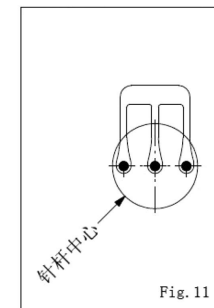

Fig. 11
- (1) 针必须完全装入针榴孔最顶端。
- (2) 经过针棒高度调整后, 必须确定每一根针皆通过针板的针孔正中央, 不可以偏斜, 且三根针需呈平行。(图11)
- (1) Be sure insert the needle into the Needle Holder as far as it can go.
- (2) After the Needle Bar adjustment, please make sure that every needle are passed though the center of the needle hole on the Needle Plate. Beside, the three needles must be in parallel and the gap must be even. (Fig. 11)